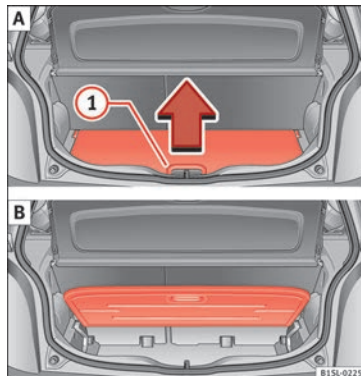

Fig. 138 A: open the boot variable floor. B: raised boot variable floor.
- To *raise* the floor, raise handle »» Fig. 138 ① in the direction of the arrow and pull from the floor all the way up »» Fig. 138 B.